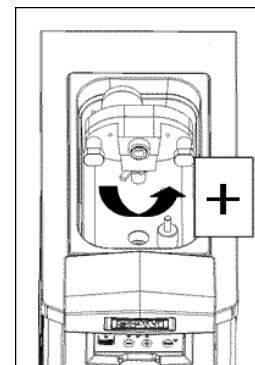

Fig. 72
- Position the pump air regulation lever and adjust it, rotating it in a clockwise direction to increase the product overrun or counter clockwise in order to decrease it (Fig. 72).